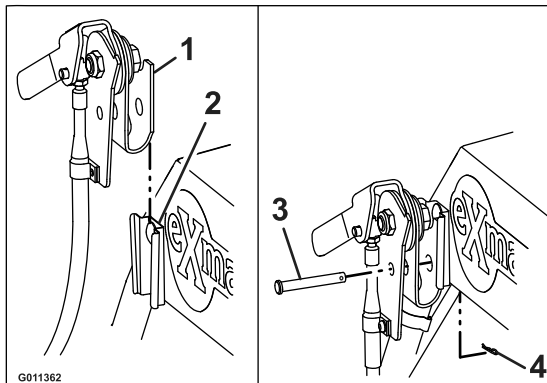

Figure 8
- E. Insert the handle assembly into the mounting bracket as shown in Figure 8.
- F. Insert the clevis pin through the handle assembly hole, into the bottom hole of the mount bracket and through the front panel of the unit. Install the hairpin through the hole on the clevis pin (Figure 8).